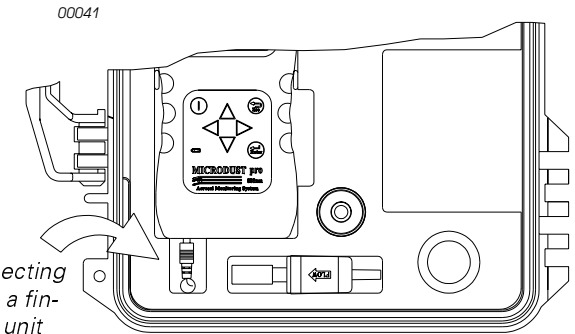

Figure 4: After disconnecting the power lead, insert a finger here to ease the unit from the cutout
4. Connect the power supply cable to the charging socket of the Microdust *pro* as shown in Figure 4.
5. When removing the Microdust *pro* unit, disconnect the power supply from the charging socket, then place a finger in the slot indicated in Figure 4 to gently lever the unit from the foam.